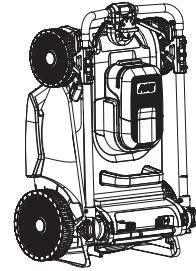

Fig. 27
10. Store the lawn mower flat or upright (Fig. 27).